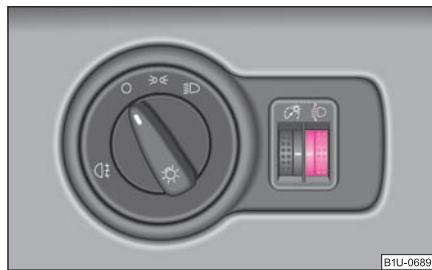

Fig. 43 Dash panel: Lights and Visibility
- Turn the control dial  fig. 43 until you have adjusted the low beam so that oncoming traffic is not dazzled.